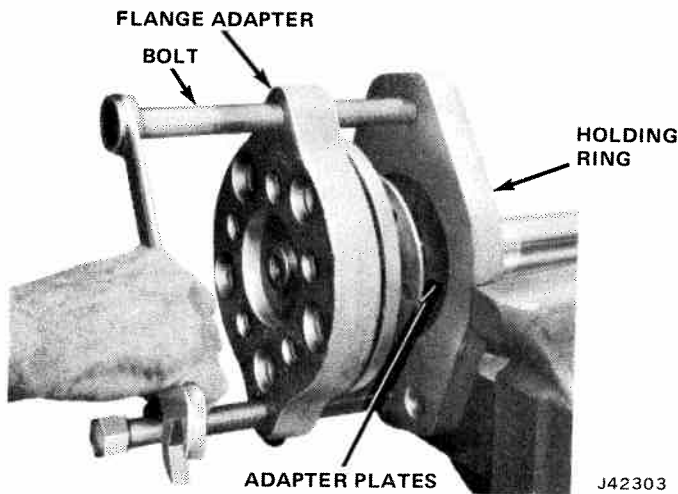

Fig. 10-16 Removing Axle Shaft Bearing
(11) Attach Puller W-343 to axle shaft using flange stud nuts. Position puller bolts against dimples of holding ring and alternately tighten until bearing is pressed from shaft (fig. 10-16).